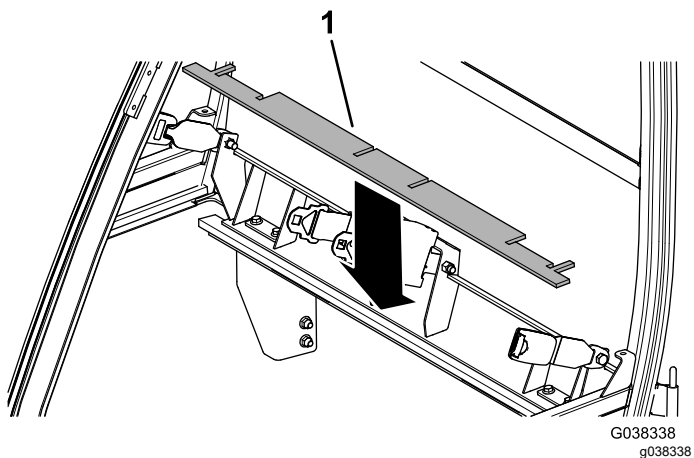

Figure 14
- Install the upper, rear foam seal (Figure 14).